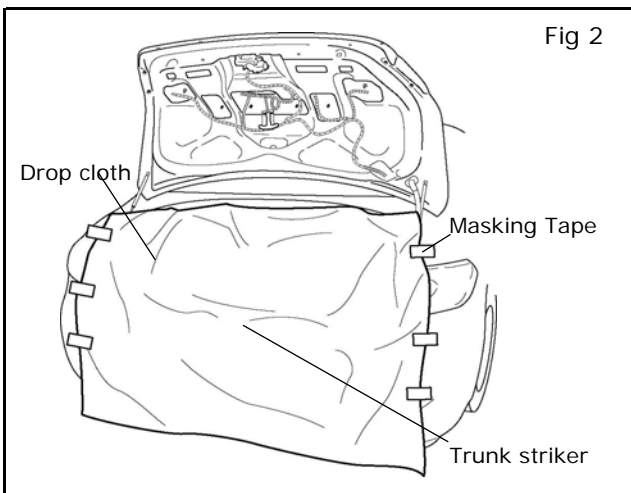

Fig 2
- 5) Attach the drop cloth to the trunk opening with masking tape. See. Fig 2.